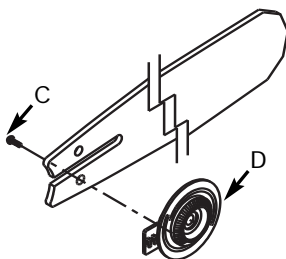

Fig. 19
5. Remove screw (C) from the tension plate (D) to remove it from the old bar and attach it to the new bar. (Fig. 19)